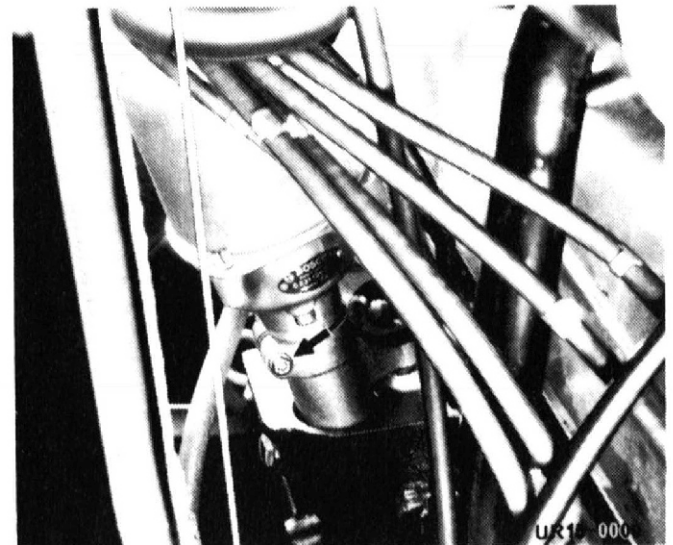

Figure 47 Clamping screw of ignition distributor
Prior to turning loosen the clamping screw on the side. Figure 47.
**The distributor adjustment is also only accomplished via the clamping screw.** Figure 47.